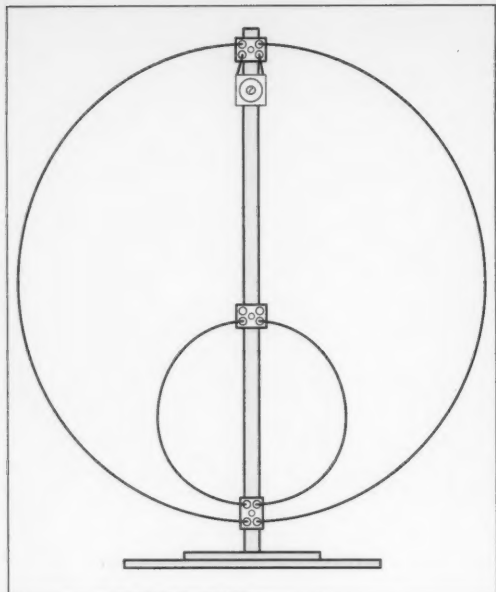

Fig. 1. The loop circuit.
The circuit design is quite simple. There is a main loop in series with a trimmer capacitor (20–180 pF) and a feeder loop about one-fifth the size of the main loop. **Fig. 1** shows the circuit. Ocean State Electronics has such a capacitor (#TC-463). Their phone number is (800) 866-6626.